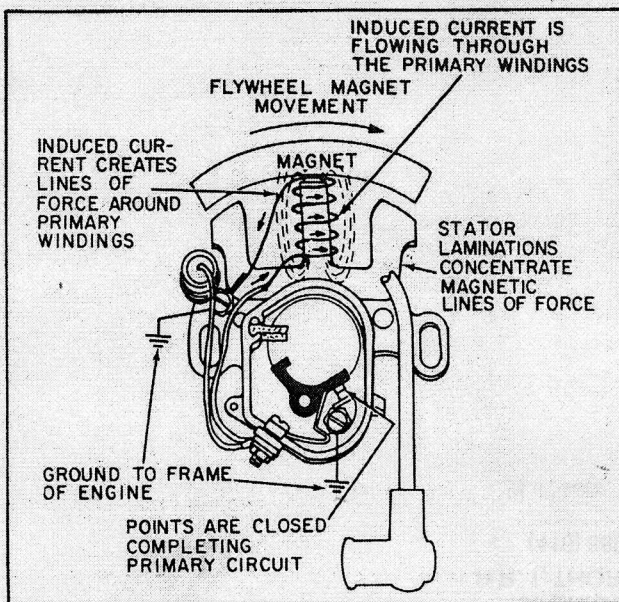

Figure 20
2. See Figure 20 - Current movement within a conductor (primary windings) produces a magnetic field around that conductor.